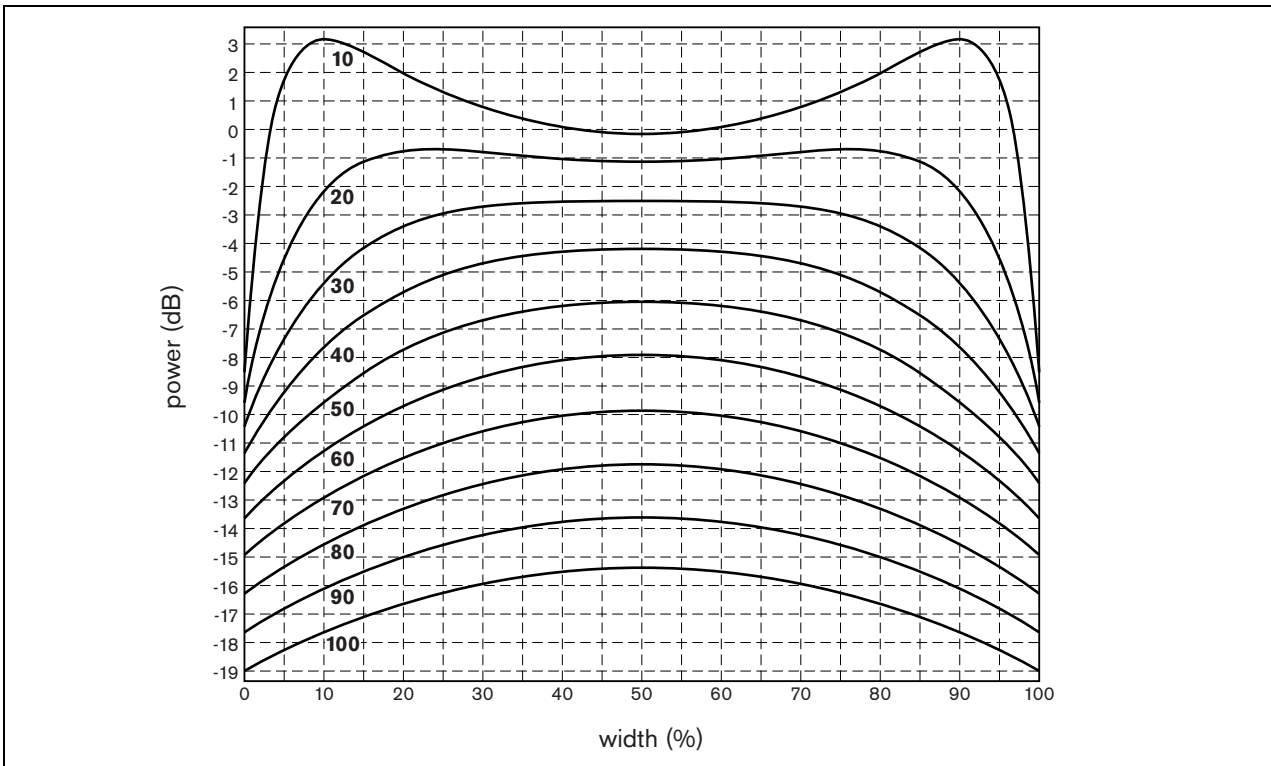

figure 2.8: Extra power vs. the width of the room
Typically, you will install the induction loop in the floor or in the ceiling of a room. When the distance between the floor and the induction loop is too small (less than 8% of the width) or too large (more than 20% of the width), refer to figure 2.8. The figure 2.8 shows the extra power that the loop amplifier needs to make the correct magnetic field. The numbers next to the curves show the distance from the floor to the induction loop in % of the width (W) of the room.